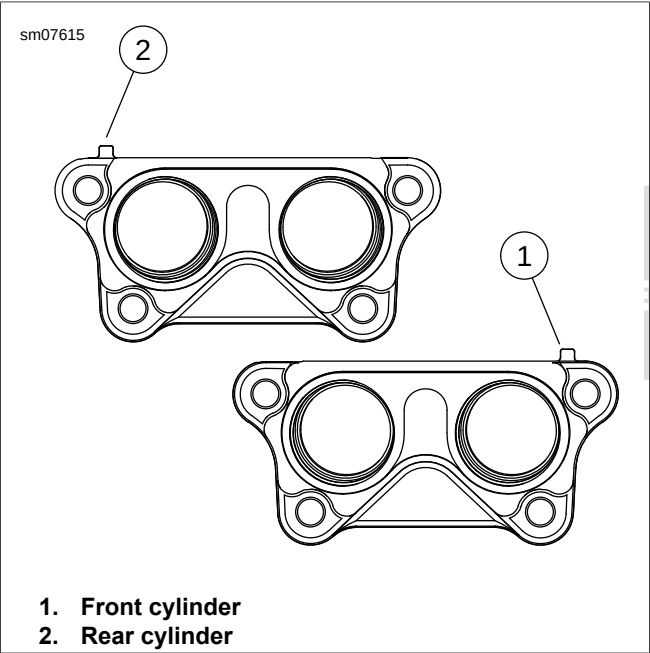

Figure 3-92. Tappet Cover Orientation
- 2. See Figure 3-92. Orient tabs of the front (1) and rear (2) tappet covers to the front and rear cylinders.